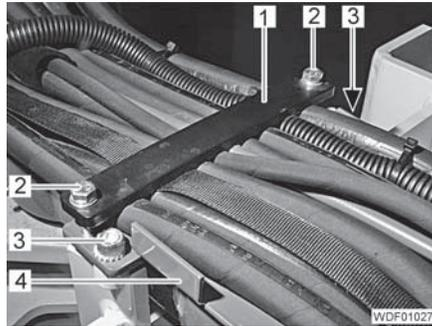

Fig. 298 Line attachment
- Put the holder (Fig. 298,4) into position and tighten the 2 screws (Fig. 298,3).
- Put the holder (Fig. 298,1) into position and tighten the 2 screws (Fig. 298,2).